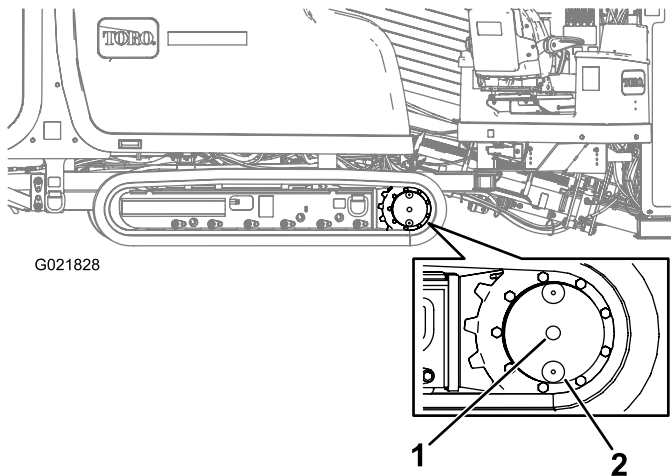

Figure 131
2. Clean the area around the oil-level plug with a cleaning solvent (Figure 131).
3. Rotate the planetary drive until the oil level and the oil-drain plugs are vertical to the ground (at the 6 o'clock position) as shown in Figure 131.
4. Remove the oil-level plug (Figure 131).
2. Clean the area around the oil-level plug (Figure 131).
3. Rotate the planetary drive until the oil-drain plug is directly below the oil-level plug (Figure 131).